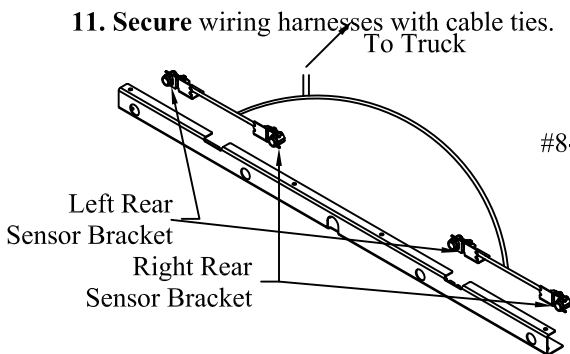

Figure 6: Orientation of sensors in rear camera and sensor bar.
**Match** the orientation of sensors to Figure 6.
10. **Install** camera and sensor brackets, as well as the exhaust deflectors, into rear camera and sensor bar using the supplied 1/4-20 hex bolts and nuts (Figures 6, 8, 9).